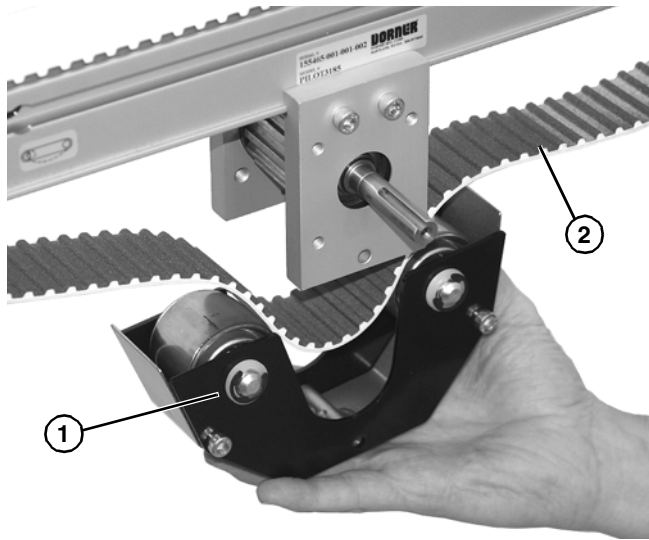

**Figure 40**
2. Remove M6x25 socket head screw (**Figure 40, item 1**) from each side of mid drive assembly (**Figure 40, item 2**).